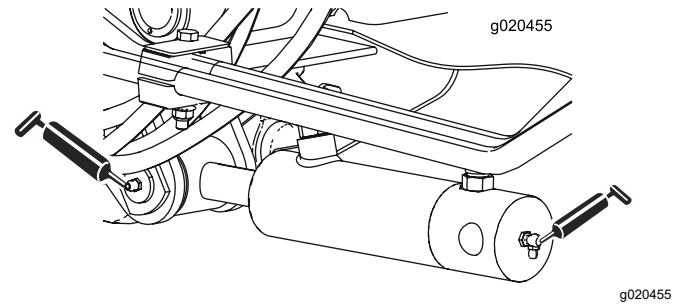

Figure 82
- 2 (each side) lift-arm-cylinder bushings (Figure 82)